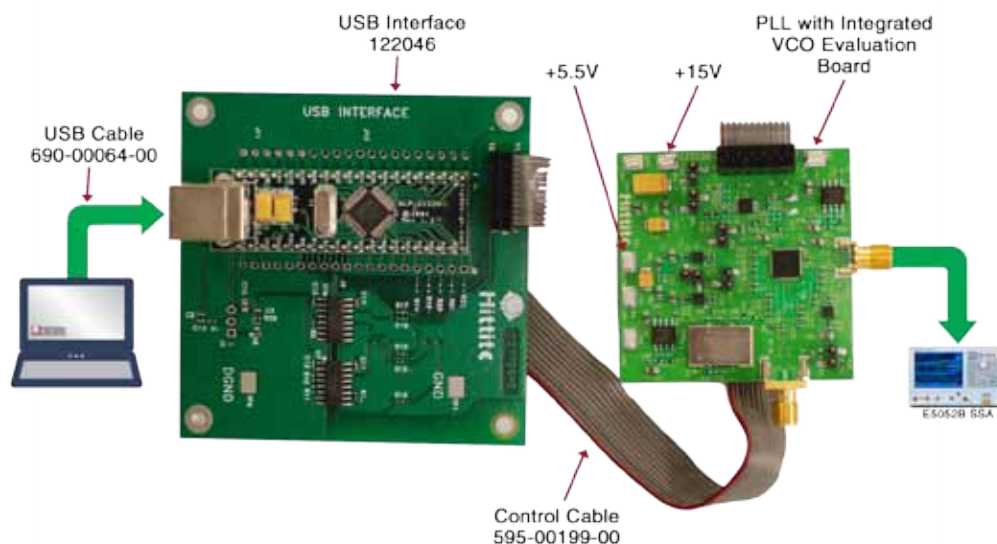

Figure 1. Typical Setup of PLL with Integrated VCO Evaluation Board
The evaluation board of Hittite fractional PLL with integrated VCO should be set up as shown in the Figure 1. It should be noted that very low noise PLL with Integrated VCOs are sensitive to noisy power supplies. The evaluation board provides on-board regulators to isolate the +5.5V supply from the PLL analog and digital +3.3V supplies, the PLL Charge Pump +5V supply and the VCO +5V supply. The VCXO is also regulated separately to +3.3V from the +5.5V external supply.
Step 2. Setup the evaluation board as shown in Figure 1.